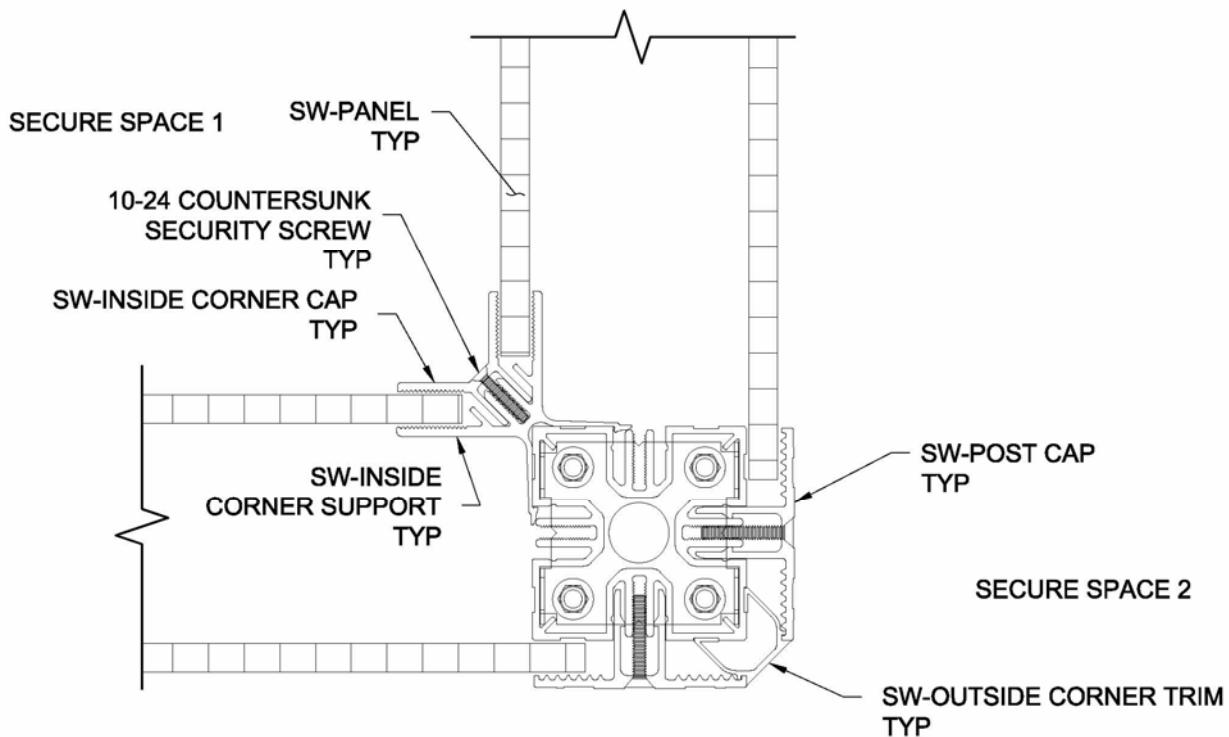

**FIG. 9**
9. Install the Top Rail Fascia supplied in 8' long pieces. Snapping into place on head track **Fig. 9.**